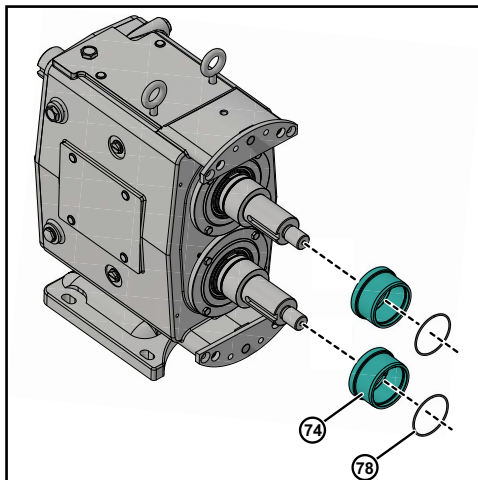

Figure 88 - Remove Sleeves and O-rings
5. Remove the two sleeves (74) along with two sleeve O-rings (78), as shown in Figure 88.